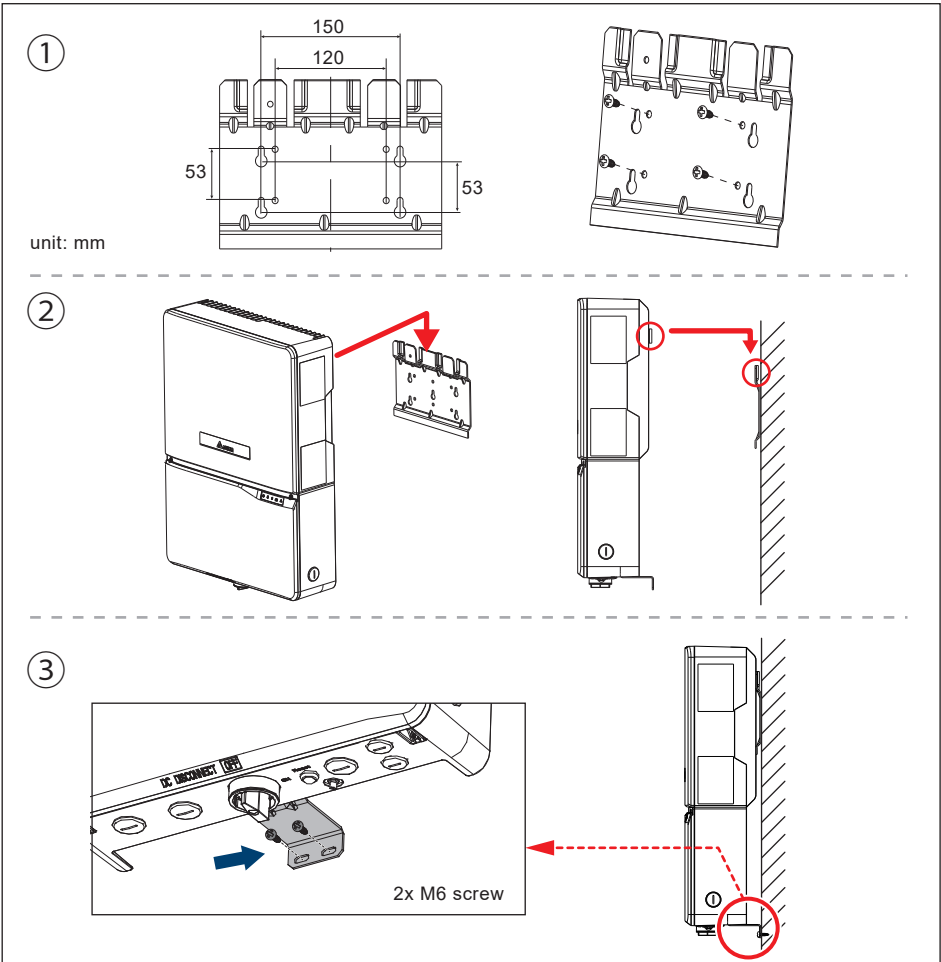

Figure 4-1 : Attaching the mounting bracket
3. Secure the reinforced bracket with 2 M6 screws as **Figure 4-1**.